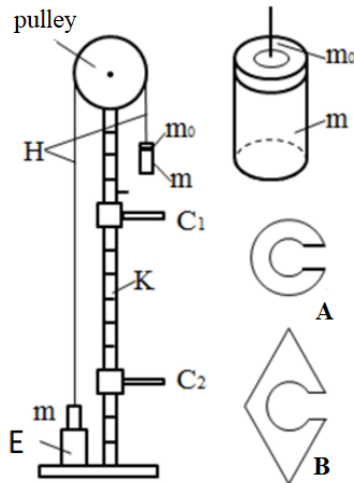

Fig. 3.1. Diagram of the Atwood machine
The principal part of the Atwood machine is a system of moving bodies, consisting of a pulley with a thread H passing over it, to the ends of which equal masses m are attached. The system is driven by an additional weight m_0 placed on one of the masses m (see Fig. 3.1). The position of a mass m is measured using scale K . When one mass is at the top position, the other is held by the electromagnet E . Ring platform C_1 and solid platform C_2 can move
along a vertical column (rack) marked with scale K. A set of additional masses of types A and B is also provided (Fig. 3.1). Type A additional weights pass freely through the aperture in platform C_1 , while type B additional weights are stopped by ring-shaped platform C_1 as the mass m moves, staying on the platform.
2. Set the system to the initial position so that the left-hand mass is at the bottom, held by an electromagnet (Fig. 3.1).
3. Install ring-shaped platform C_1 below the right-hand mass at a distance ℓ from the lower base of the mass (Fig. 3.1). The value of ℓ is specified in the apparatus manual.